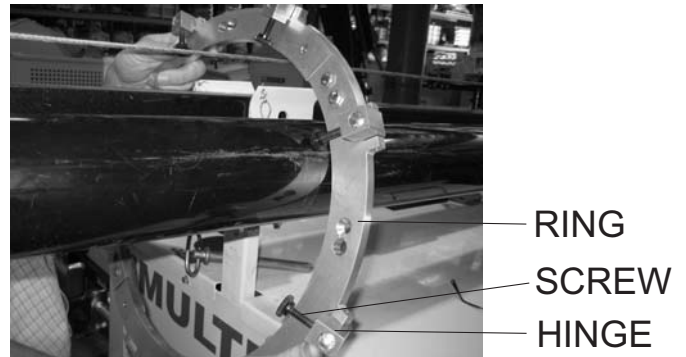

Figure 7. Ring Attachment
7. Situate the two halves of the ring in front of the mast cradle making sure that the eight hinges and screws are facing towards the T-bar. See Figure 7.